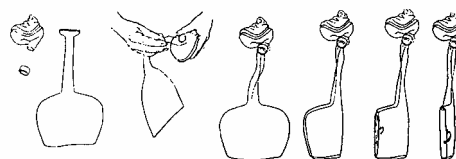

Fig. 3
3. Fold airway bag, being careful not to twist neck of bag. (Fig. 3)